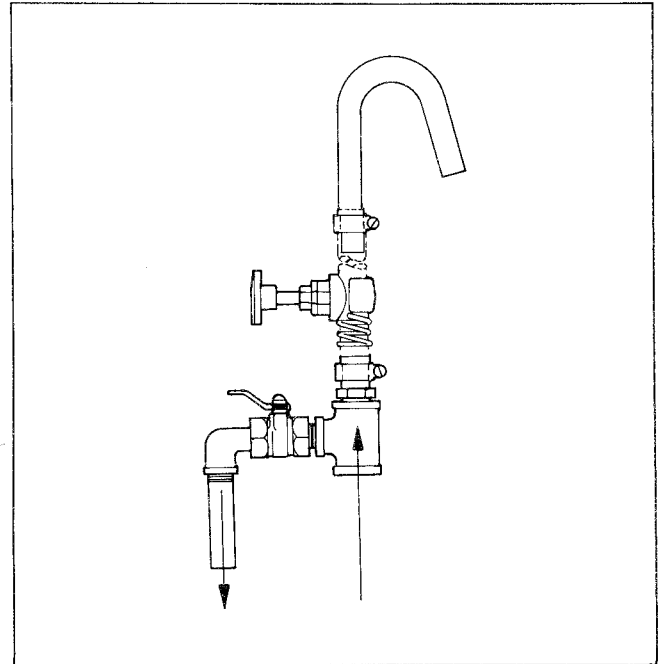

Figure 6. Type B2 System
- b. Type B2 By-Pass (Figure 6):** Consists of tee, return piping to tank with 1/2" butterfly valve, 3/4" slip-on hose fitting, 8" steel wire spring to prevent kinking, pinch valve, 2 (two) stainless hose clamps, hook-over nozzle. All parts nickel plated.